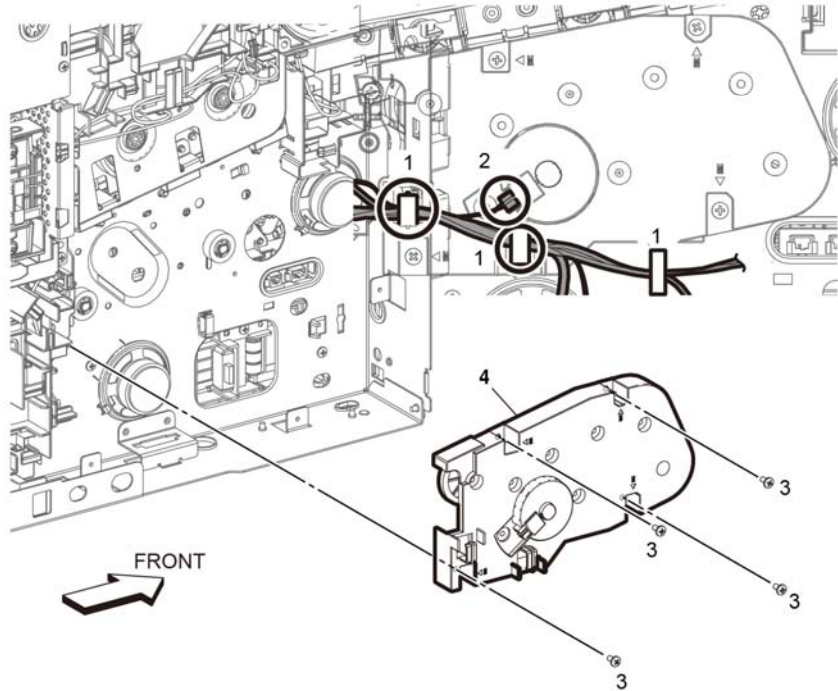

Figure 1 Bypass (MSI) drive assembly removal
8. Remove the bypass (MSI) drive assembly, Figure 1:
- a. Release the harnesses from the harness guide (1).
- b. Disconnect the connector P/J481 (2).
- c. Remove four screws (3), then remove the bypass (MSI) drive assembly (4).